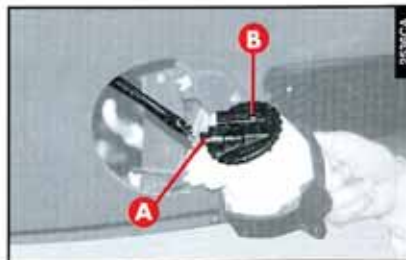

fig. 18
- Disconnect the connector (A-fig. 18) of the lamp unit.
- Turn and remove the rear cover (B-fig. 18).